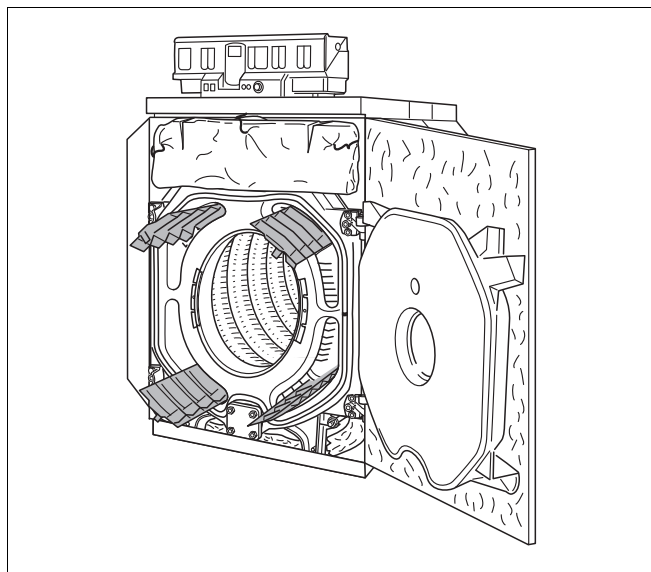

Fig. 52 Check the location of the hot gas baffle plates
- Pivot both ends of the thermal insulation upwards (Fig. 52, [1]) and fix with the hook spring.
- Remove the cleaning cover on the rear section (Fig. 52, [2]) and the flue gas collector (Fig. 52, [3]).